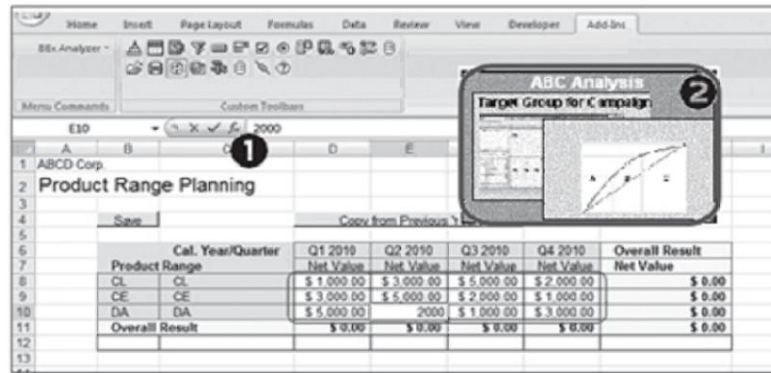

Figure 2.5 Planning and Advanced Analytics in SAP NetWeaver BW
This component allows you to create planning applications (❶ of Figure 2.5) that
This component allows you to perform advanced analysis (2 of Figure 2.5), such as data mining.